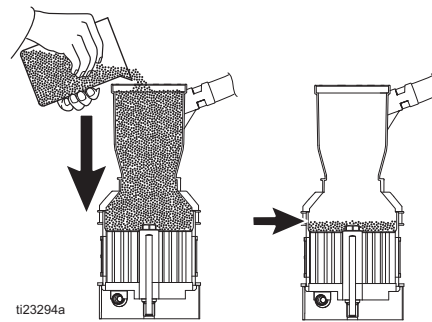

FIG. 21
6. When finished dispensing for the day, dispense into a waste container until the material level is down to the melter core. See FIG. 21.